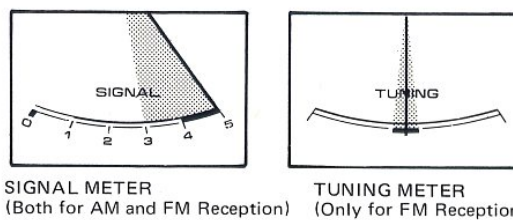

Fig. 13
Best reception is obtained when the SIGNAL meter needle deflects to the extreme right, and the TUNING meter needle is exactly in the center, as shown in Fig. 13. If the broadcast is stereophonic, the STEREO indicator lamp will come on: it will not illuminate for monophonic broadcasts.
2. Turn the TUNING knob to select your station. Best reception is obtained when the SIGNAL meter needle deflects to the extreme right (see Fig. 13).